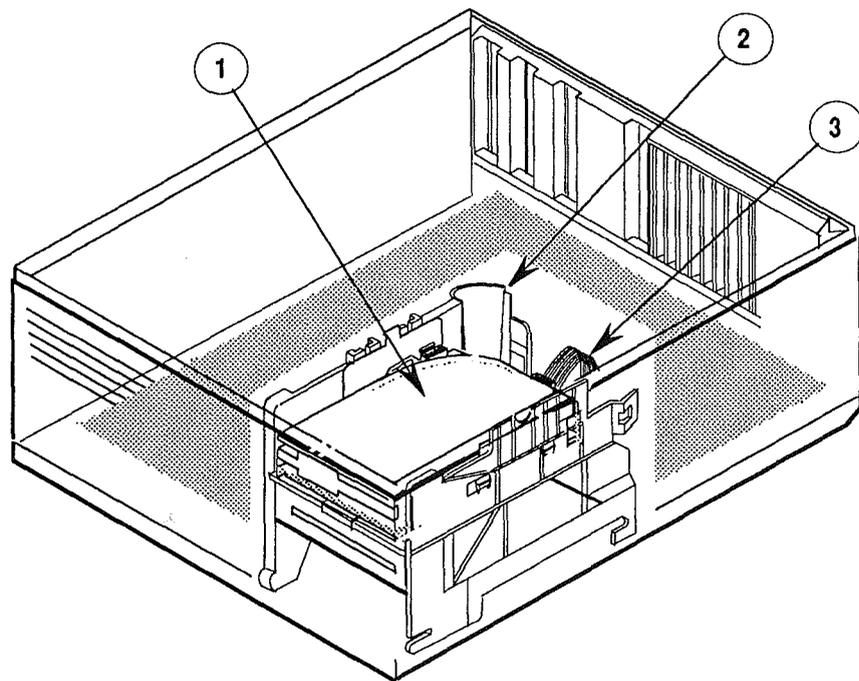

FIGURE 9
The hard disk drive (Figure 9, #1) is located in the top portion of the disk drive carrier unit (Figure 9, #2). The hard disk drive can be removed with or without removing the carrier unit. The following procedure describes how to remove the hard disk drive without removing the carrier unit. (The procedure for removing the carrier unit is explained later in these Take-Apart procedures.)
2. Carefully pull out the 50-pin connector from the back of the hard disk drive (Figure 9, #3).